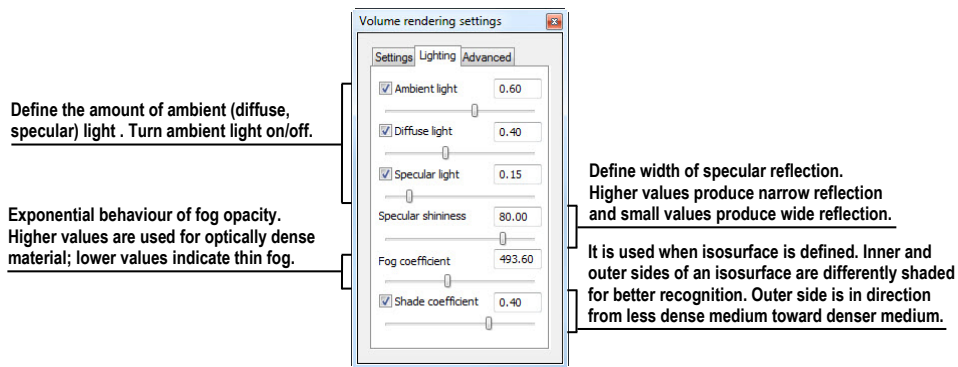

Figure 278 – Volume rendering settings, the second tab
- lighting settings used in volume rendering on the **Lighting** tab (see Figure 278)